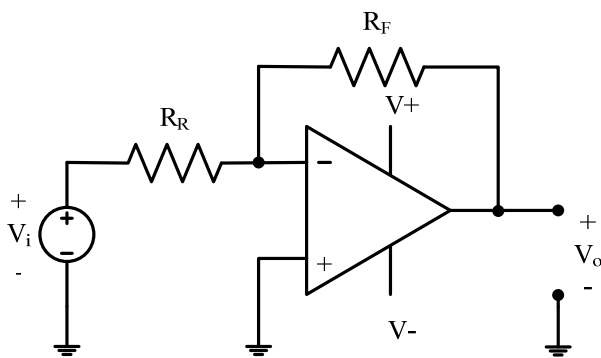

Figure 2: Inverting amplifier.
1. In **inverting amplifier**, the feedback resistor R_F is connected between the output and the inverting input as shown in Figure 2. The output of the inverting amplifier is